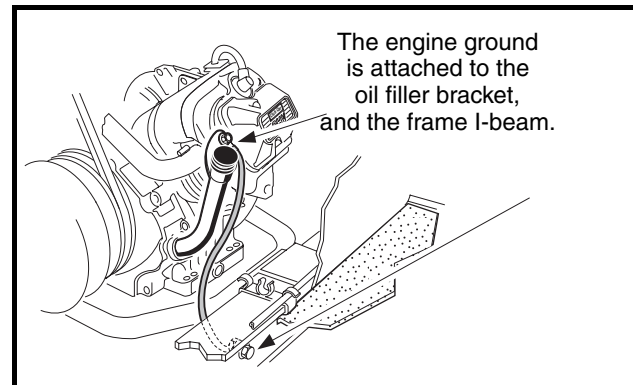

Figure 11-9 Test Engine Ground Strap
- 4.1. Place the red (+) probe of the multimeter on the ground strap terminal end located on the oil filler bracket on the engine (**Figure 11-9, Page 11-14**). Place the black (–) probe on the vehicle frame. The reading should be continuity. If the reading is incorrect, clean and tighten wire connections. If the connections are good and the reading is incorrect, repair or replace the wire.